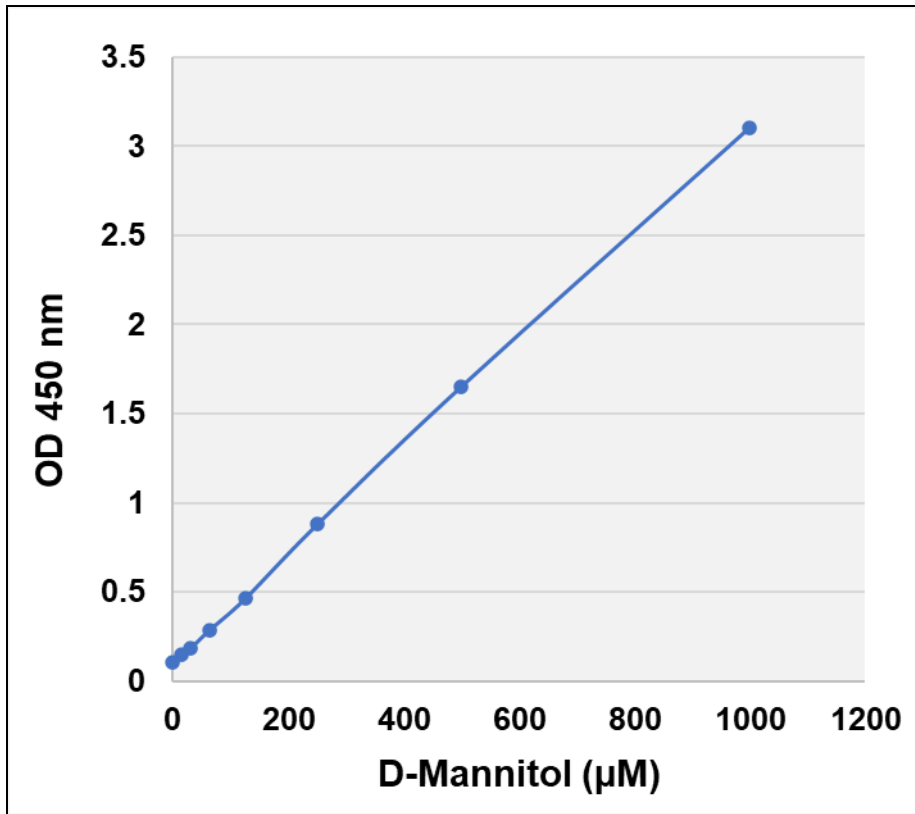

Figure 2. D-Mannitol Standard Curve.
3. Graph the standard curve (see Figure 2).